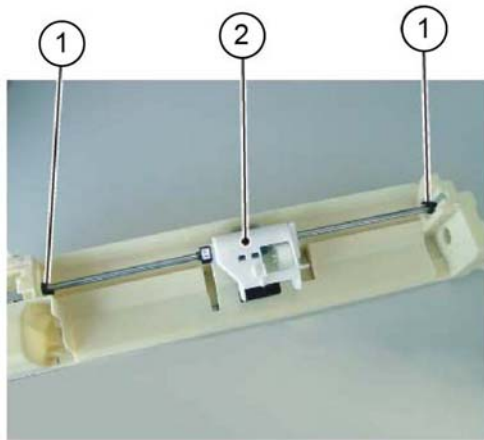

Figure 6 Feed roll assembly removal
7. Remove the bypass tray feed roll assembly, Figure 6:
- a. Remove two E-Clips (1).
- b. Remove the bypass tray feed roll assembly (2).